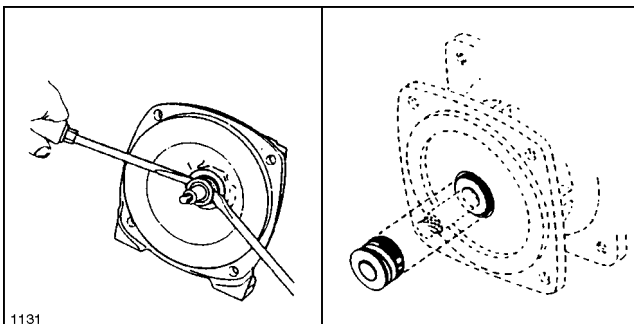

FIG. 10
1. Lightly lubricate shaft with mineral oil or glycerin for easier removal of seal. Using two screwdrivers positioned opposite each other, pry the rotary portion of the seal from the shaft. See FIG. 10.
4. To install the rotary portion of the mechanical seal, place it over the shaft with the carbon side facing in, and press until it bottoms out against the stationary portion. Install rubber spacer. See FIG. 10.